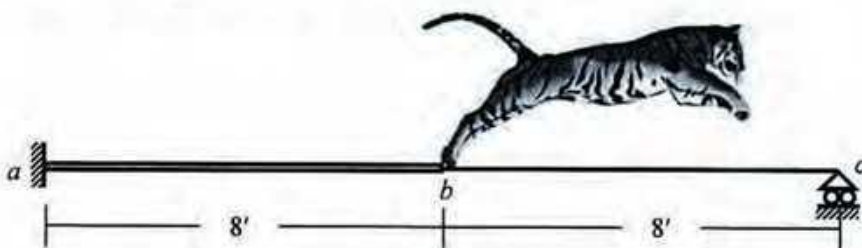

Fig. 8
- Fig. 8 shows statically indeterminate beam abc carrying the load shown in Fig. 5(c). Calculate the vertical deflection at a (support movement) required to make deflection at b equal to zero [Given: $EI_{ab} = 60 \times 10^3 \text{ lb-ft}^2$, $EI_{bc} = 30 \times 10^3 \text{ lb-ft}^2$].